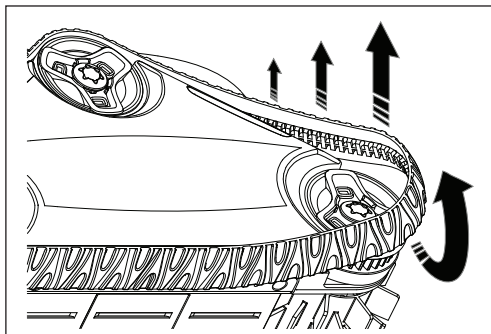

Figure 21. Pull the Track Over Wheels to Remove
2. Starting at one of the wheels, pull on the inside of the track to separate the tire lip from the wheel. See Figure 21. Remove the track from the cleaner.